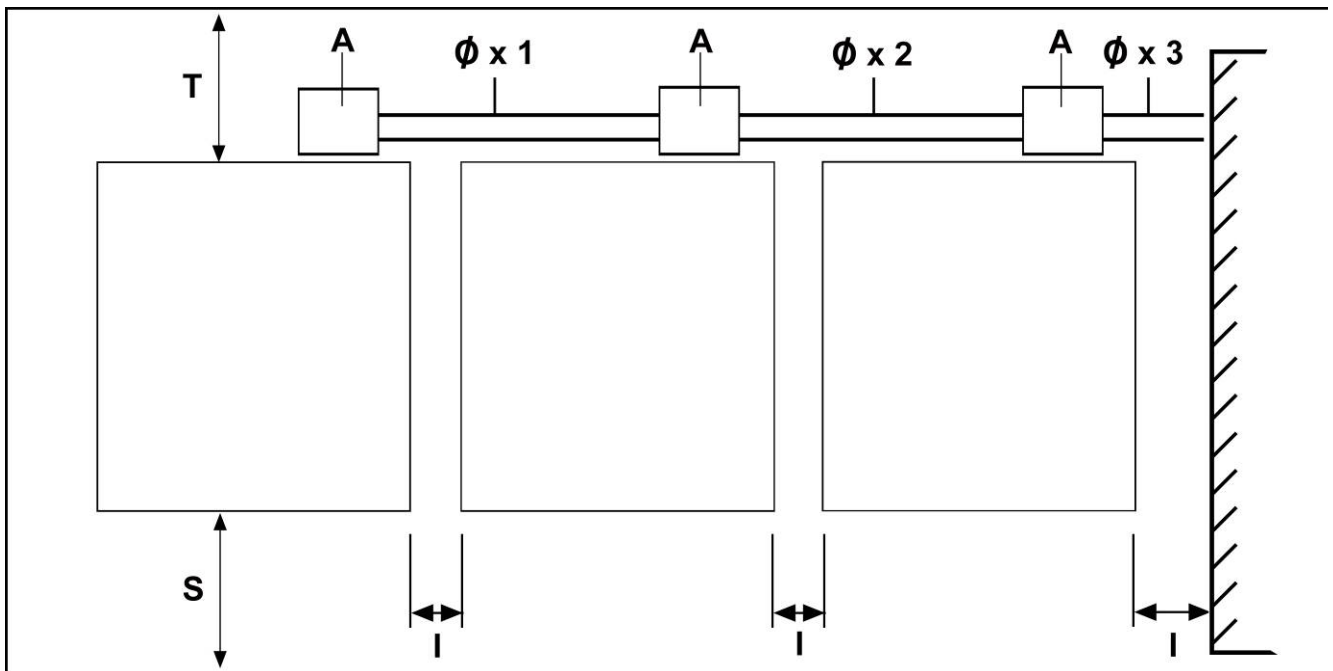

Fig. 2.3
The minimum distance between adjacent machines and the user and maintenance areas (values **I**, **S** and **T** of Figure 2.3) are specified on the table below.
**Positioning conditions (Fig. 2.3)**